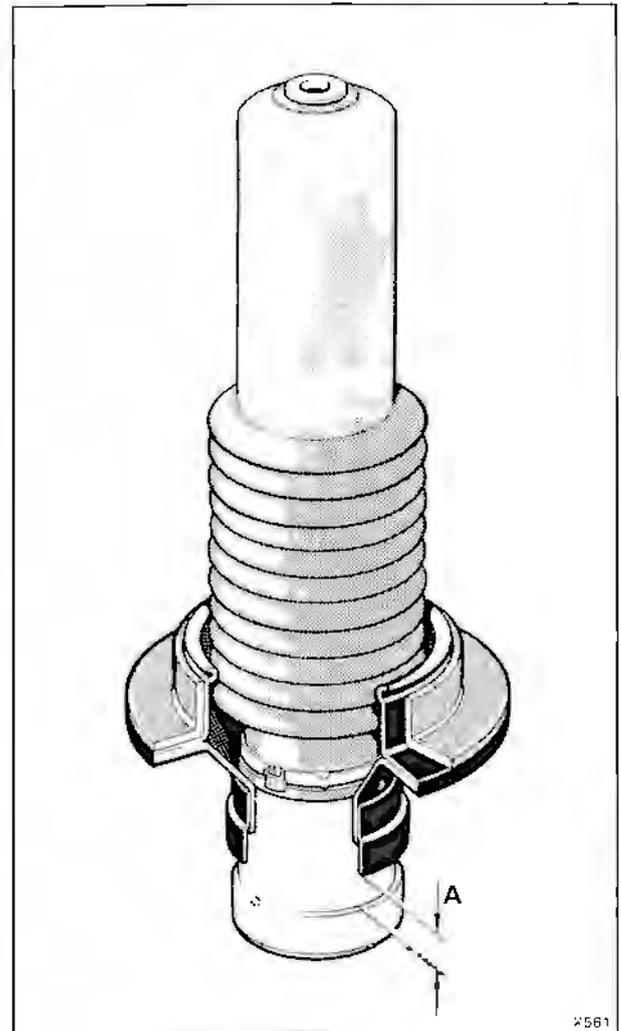

Fig. H4-4 Spring support plate, collar, and sleeve assembly
2. Insert the support collar through the spring support plate. Fit the convoluted cover onto the neck of the collar together with a securing band. Ensure that a distance of 19 mm (0.750 in) exists between the shoulder of the collar and the bottom face of the support (see fig. H4-4). Fasten the cover to the collar with the securing clip using tool RH9733.